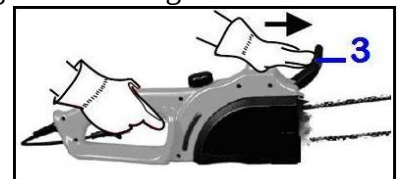

Fig.8
1. Hold the chain saw securely and firmly by the front (11) and rear (7) handles.
3. Press the hand guard (3) toward the front (Fig.8). This should cause the saw chain and motor to stop immediately.